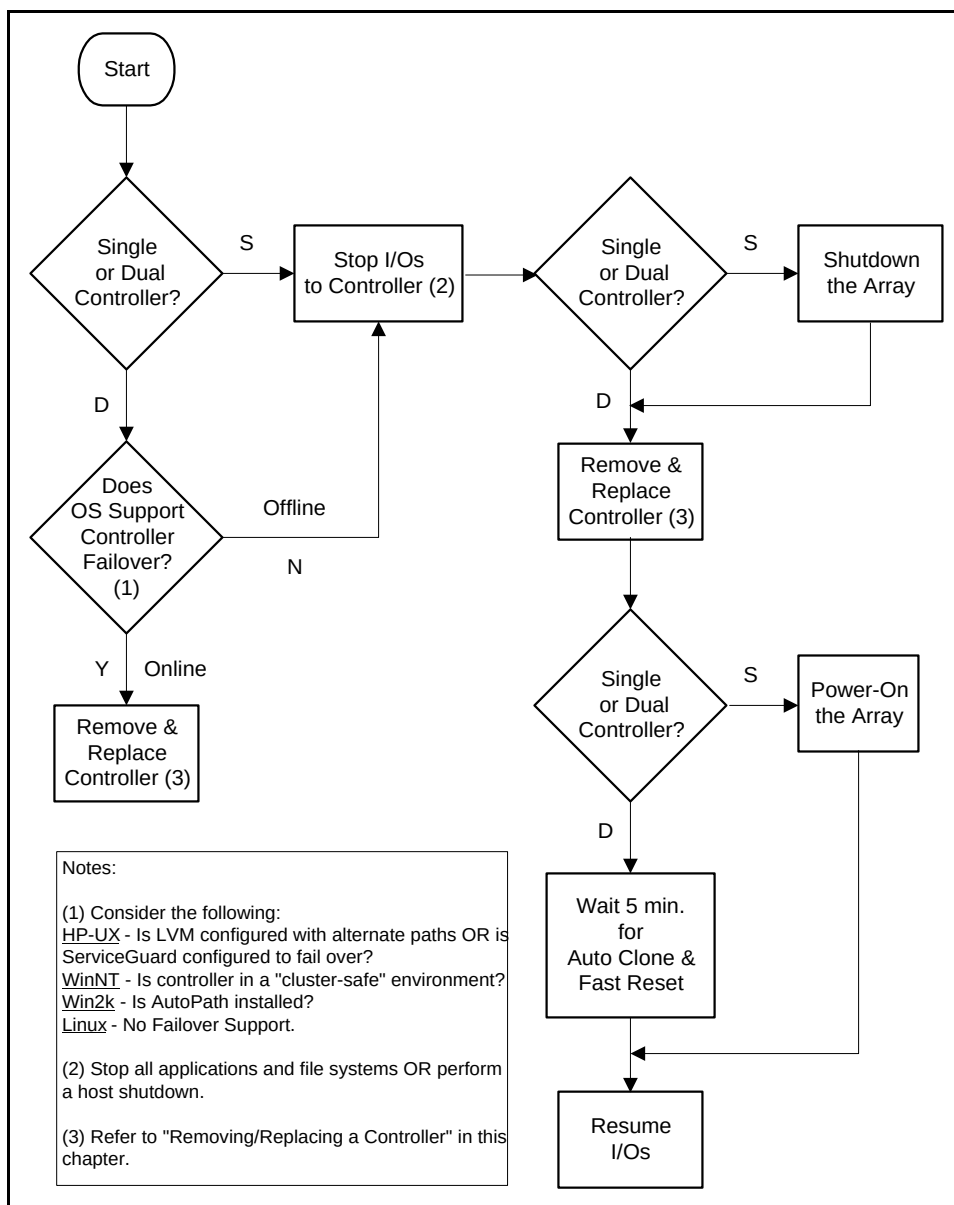

Figure 32 Array Controller Card Removal & Replacement Flowchart
1. Follow the flowchart in Figure 32.